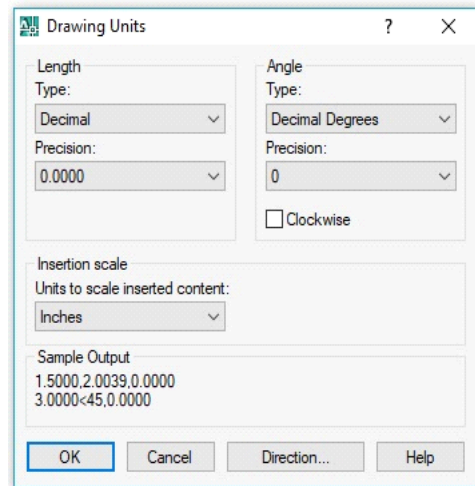

Fig. 1.2: Drawing Units
- The “Drawing Units” dialogue box will open as shown in Fig. 1.2.